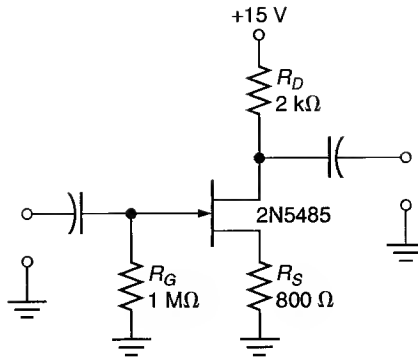

FIGURE 12.57
20. Determine the ranges of V_{GS} , I_D , and V_{DS} for the circuit shown in Figure 12.57. Assume the JFET is a 2N5485 (which is described in Problem 8).